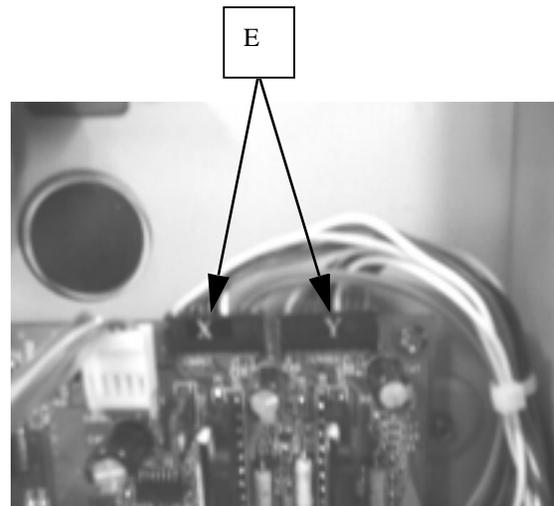

FIGURE 15-5
6. Remove 14 bind head screws 4x5 , and remove bottom plate. Remove Y(X) motor cord connector and Y(X) sensor connector(E) from A board. Fig.15-5.